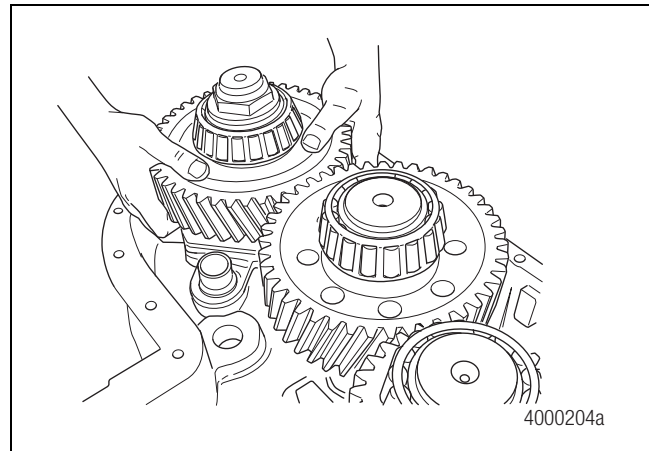
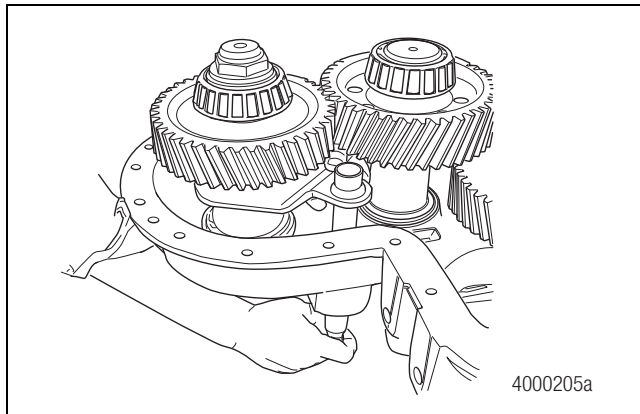

Figure 6.16
Figure 6.17
- Install the front output shaft, shift fork and clutch collar in the front case. The shift fork will slide over the push rod. Figure 6.16 and Figure 6.17.